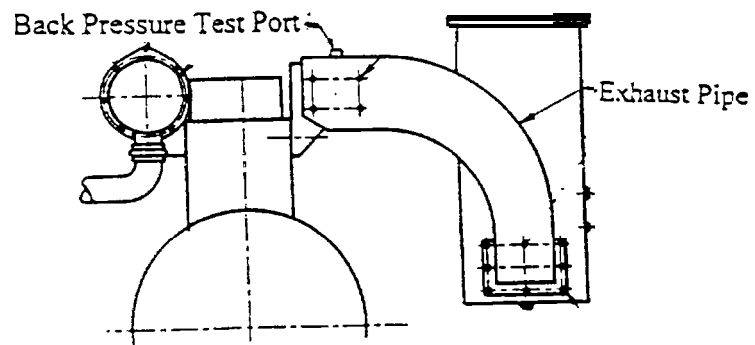

Figure 13. Location of Exhaust System Back Pressure Test Port
30. ( ) Connect a manometer or magnehelic to the test port in the exhaust pipe flange shown in Figure 13. Run the engine at full throttle no load, with exhaust conditioner filled to normal operating water level. The exhaust backpressure does not exceed 34 inches of water.